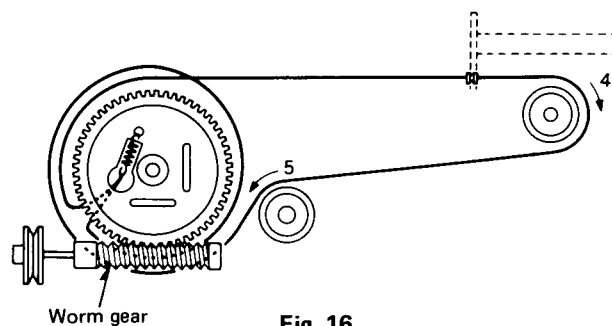

Fig. 16
- Holding the rope set over the arm drive wheel, set the drive wheel and rope according to the steps 4 ~ 5 in Fig. 16.
- Mount the E-ring (56) and washer (57).